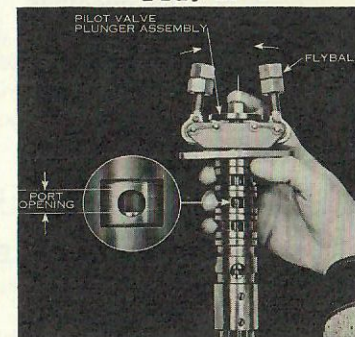

FIG. 14-1
2. Push down on the pilot valve plunger as shown in Fig. 14-1. This will move the flyballs to inner position. Note amount of port opening.